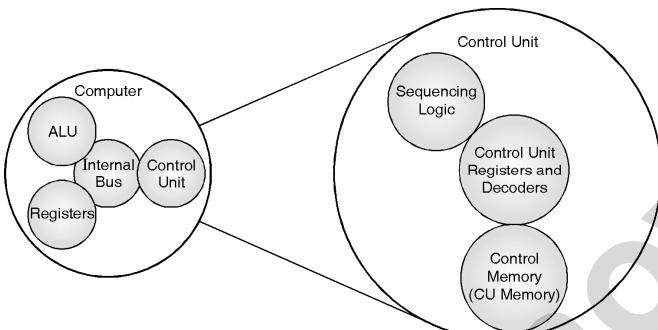

Fig. 9.2.3 : Structure of Control Unit
6. The components of the Central Processing Unit (CPU) are Arithmetic and Logic Unit (ALU), Control Unit(CU) and CPU Registers, which are also connected with the internal buses.
9. The CU is further divided in three parts as shown in Fig. 9.2.3.